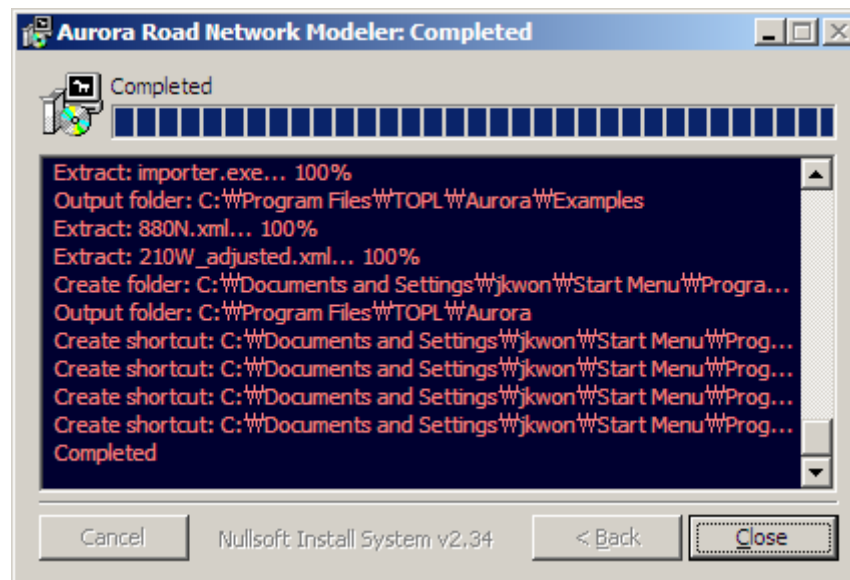

Figure 3-4: Installation is complete.
6. If you click **Install**, Aurora is installed on your computer (Figure 3-4).